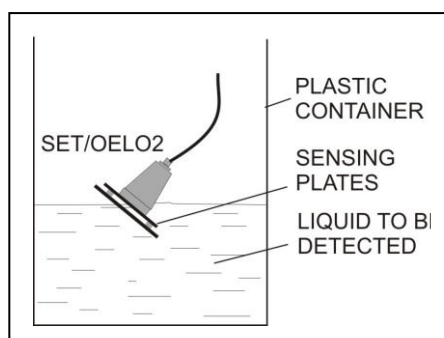

Fig. 4. Adjusting the switching point
2. Immerse b of the sensing plates of the sensor, according to Fig. 4 below, to the liquid to be measured which should cause the relay in the control unit to operate. If the control unit does not operate within the operating range or the set-point isn't at the desired position, turn the SENSE trimmer until the desired set-point has been reached.